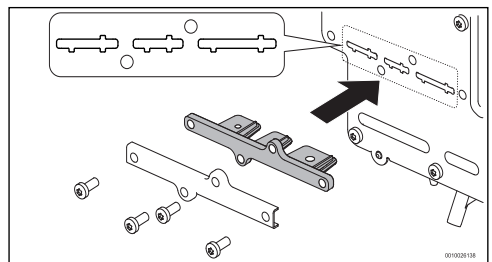
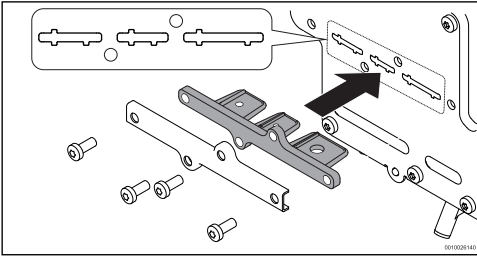

Fig. 4 160kBTU appliance gas conversion kit
Fig. 5 199kBTU appliance gas conversion kit
- ▶ Install the LP conversion plate, as shown in fig. 4 and fig. 5, for the 160kBTU and 199kBTU appliance, respectively.